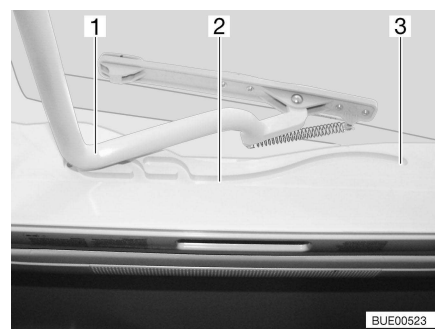

Fig. 35 Heki skylight, guide
- Pull the bar (Fig. 35,1) in the guides (Fig. 35,2) to the rearmost position (Fig. 35,3).
- Use both hands to push the bar (Fig. 35,1) slightly upwards.
- Pull the bar in the guides (Fig. 35,2) to the desired position.